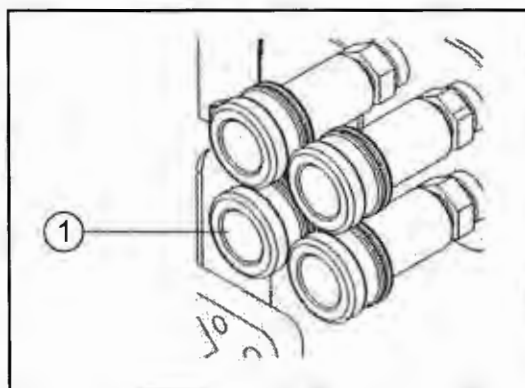

Fig. 26-2 - Single-Action Coupling
First hitch the equipment to the tractor draw bar. With the engine shut off, connect the hydraulic line to the coupler (1) on the tractor (See Fig. 26-2).